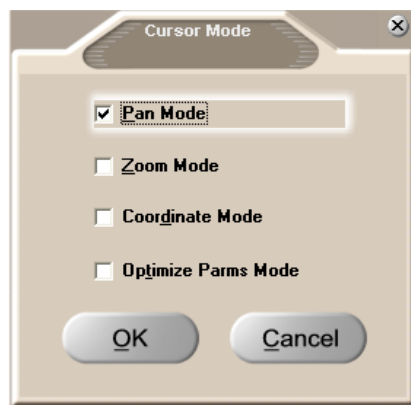

Figure 3-34: Cursor mode
- Or use keyboard command [Alt+D, C]. The *Cursor Mode* settings box shows check boxes to assist viewing an appropriate range of the spectrum (Figure 3-34).